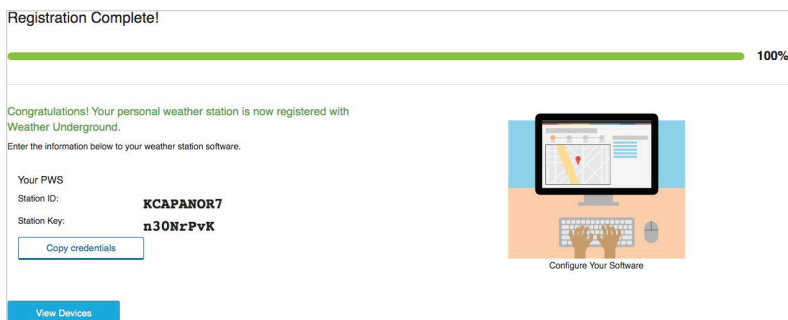

Figure 10-2. *Registration complete*
7. At this point your registration is complete (figure 10-2). Copy the credentials down, as you’ll need them later, and then click the “My Devices” button. Finally, on *that* page, click the API Keys tab. Check the Terms of Service checkbox and click “Generate New Key”. Your new API key will be generated and populated into the text box. You should copy it somewhere and save it.